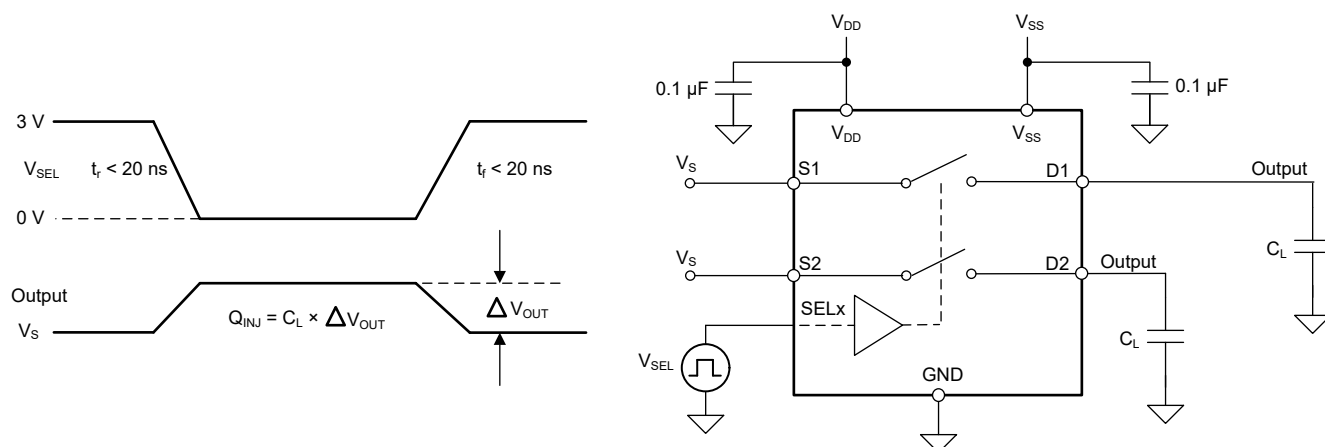

图 7-7. Charge-Injection Measurement Setup
The TMUX722x has a transmission-gate topology. Any mismatch in capacitance between the NMOS and PMOS transistors results in a charge injected into the drain or source during the falling or rising edge of the gate signal. The amount of charge injected into the source or drain of the device is known as charge injection, and is denoted by the symbol  $Q_C$ . 图 7-7 shows the setup used to measure charge injection from source (Sx) to drain (D).